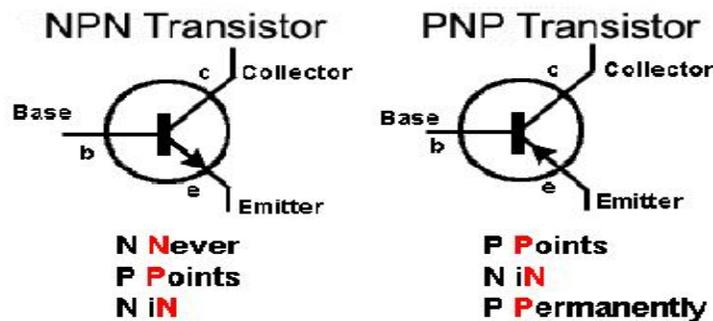

Figure 1.20: NPN and PNP Bipolar Junction Transistors
Bipolar Junction Transistor: The Bipolar Transistor basic construction as shown in Figure 1.20 consists of two PN-junctions producing three connecting terminals with each terminal being given a name to identify it from the other two. These three terminals are known and labelled as the Emitter (E), the Base (B) and the Collector (C) respectively. Bipolar Transistors are current regulating devices that control the amount of current flowing through them in proportion to the amount of biasing voltage applied to their base terminal acting like a current-controlled switch. The principle of operation of the two transistor types NPN and PNP, is exactly the same except in their biasing and the polarity of the power supply for each type. In order to remember as shown in Figure 1.20, in NPN, the arrow which signifies the direction of conventional current flow between base terminal and emitter ‘**Never Points In**’ while in PNP, the arrow ‘**Points In Permanently**’.